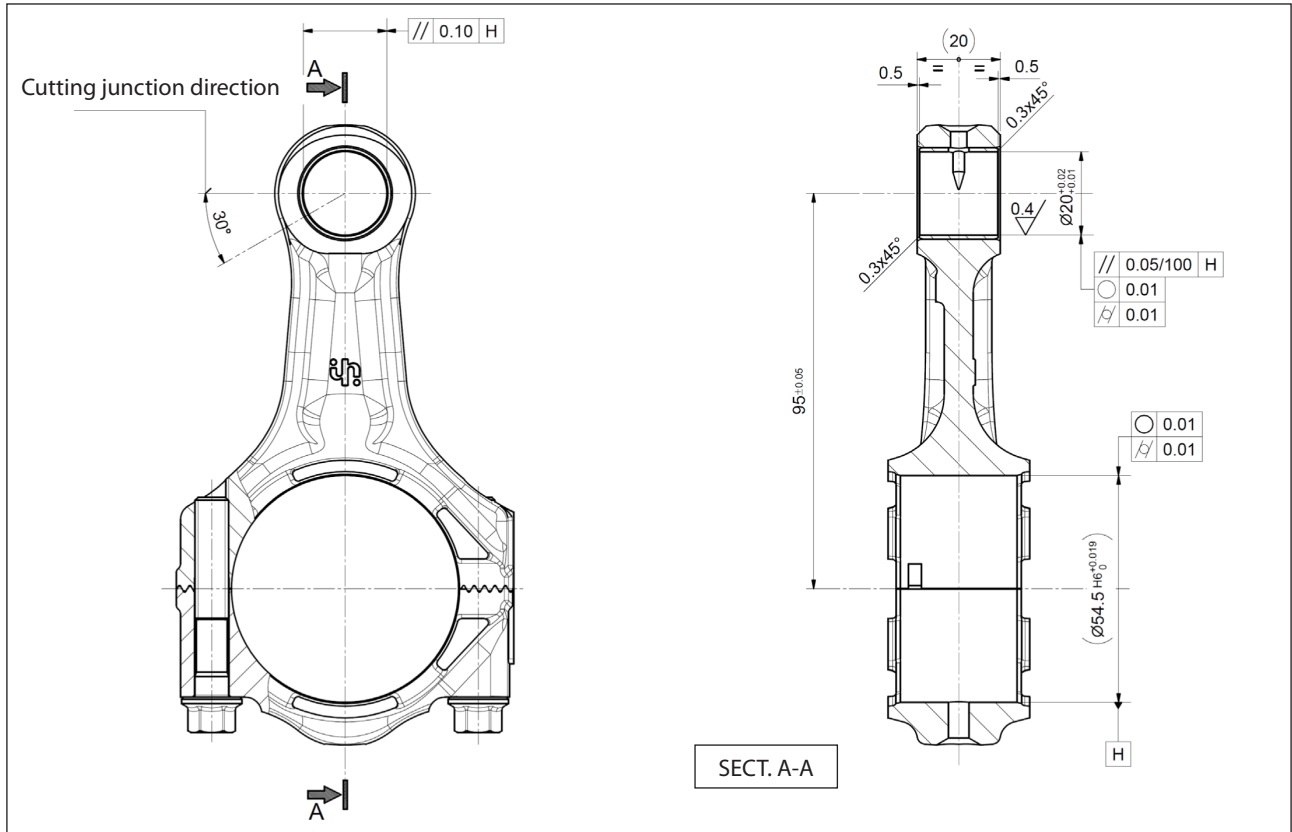

Fig. 51
- the cutting junction is directed as shown in Fig. 51.
Then perform mechanical processing. The dimensions and tolerances shown in Fig. 51 must be respected.